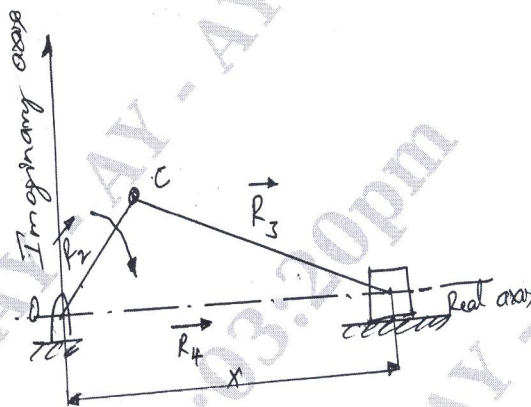

Fig Q6 (16 Marks)
- 6 The crank of a reciprocating engine is 90mm long, the connecting rod is 360mm long and the crank rotates at 150 rpm clockwise. Find the velocity and acceleration of the piston and the angular velocity and angular acceleration of the connecting rod, when the angle which the crank makes with inner dead angle is 30° . Solve the problem through complex algebra. [Refer Fig Q6]